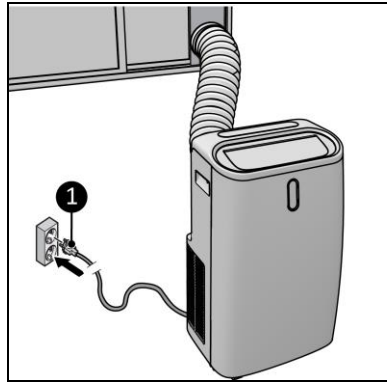

Figure 13
7. Place the power plug (Figure 13, pos. 1) into an earthed wall socket that is easily accessible. Use an earthed wall socket with a minimum power of 1800 Watt.